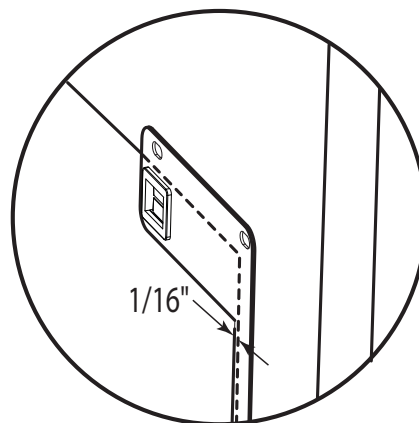

Fig. 09
7. Place the right and left mounting bracket supports by resting the bottom edges of the supports on the bottom of the cutout (Fig. 08). The long flange on the side supports should clear the side of the cutout by approximately $1/16''$ (see Fig. 09). Install top screws into the cabinet face by first drilling $1/8''$ pilot holes (see inserts 3 and 4).